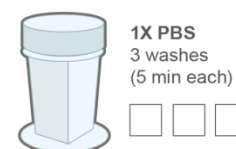

Figure 30: Wash 3x in 1X PBS
15. Following segmentation and visualization incubation, **transfer slides to 1X PBS and wash for 5 minutes** (Figure 30).